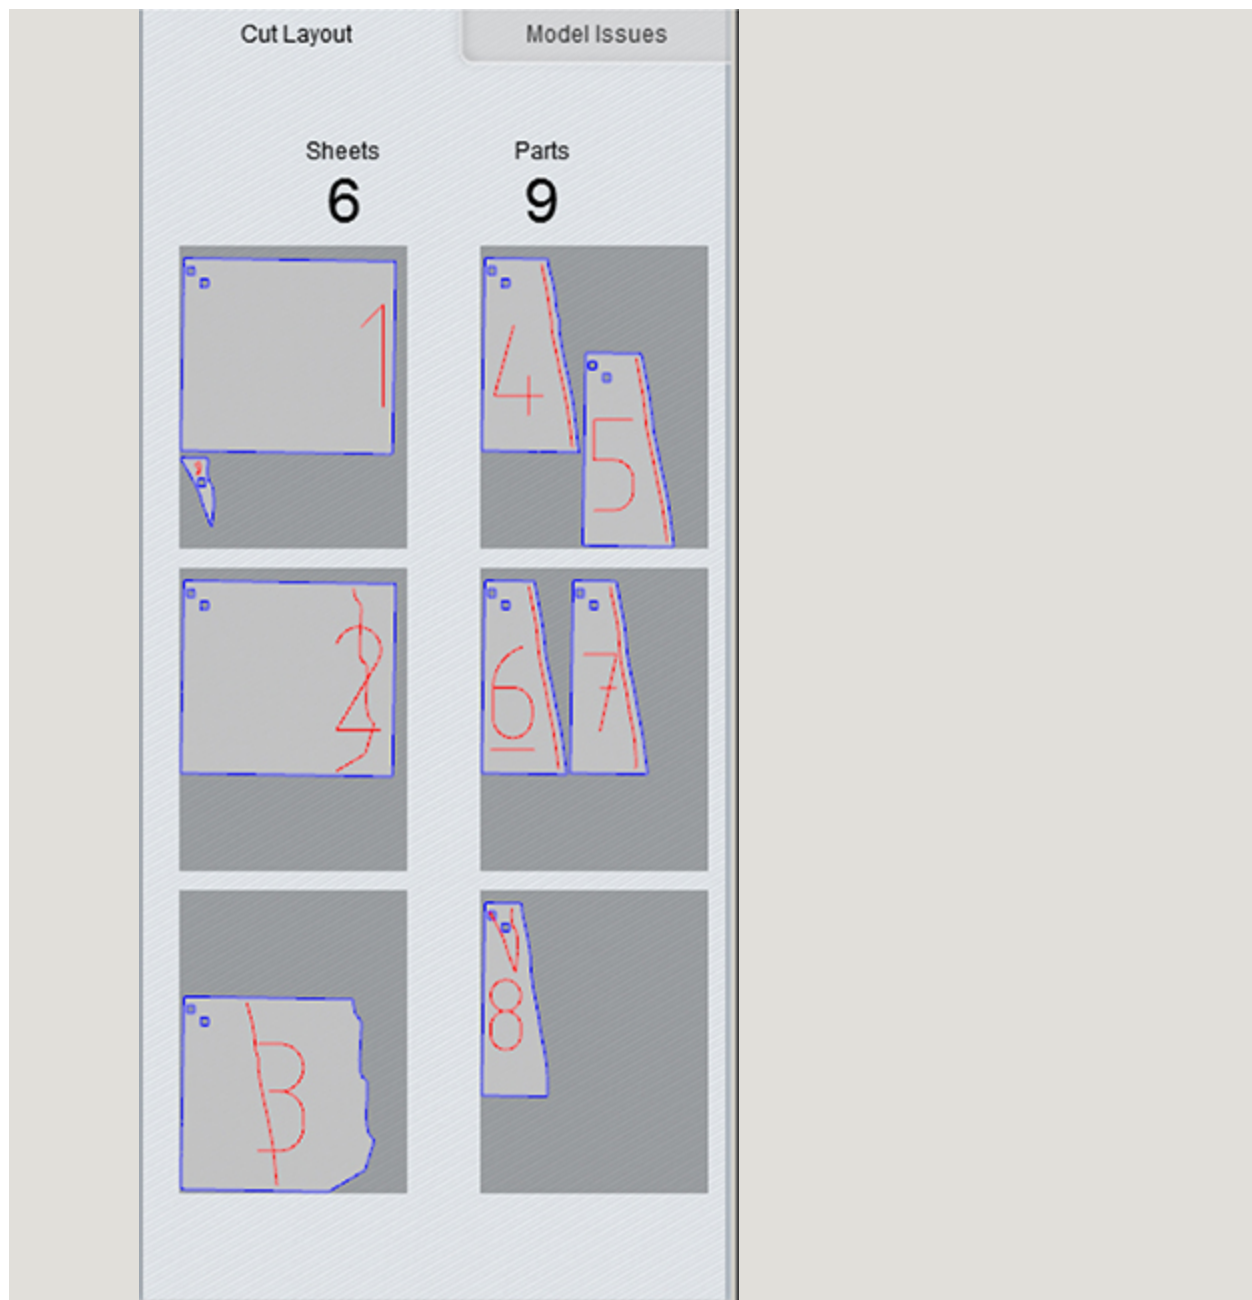

Figure 7-24 The graphics in the Cut Layout tab show the material sheets.
Study the graphics in the Cut Layout tab (Figure 7-24) because they show how many sheets of material are needed, how many slices and parts, and where problems are. Hyphenated labels, such as Z-3-2, describe the part's axis (Z), the slice number (3), and the part number (2). Blue outlines are the model's outside edge, green outlines are cuts inside the model for hollows, yellow outlines are scored guides for placing parts during assembly, and red parts have too many errors to be built.